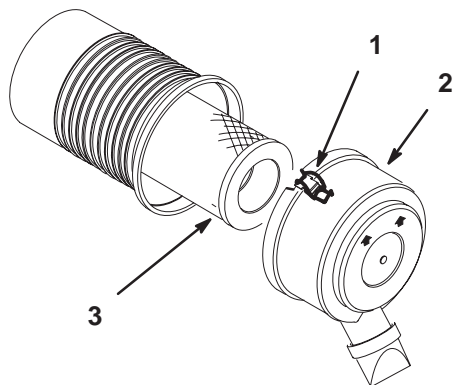

Figure 37
3. Clean around the air cleaner to prevent dirt from getting into the engine and causing damage. Loosen retaining clips and remove air cleaner cover (Fig. 37).
4. Carefully remove filter from compartment (Fig. 37).
1. Carefully slide the element into the compartment (Fig. 37).
2. Place the air cleaner cover onto compartment and latch retaining clips (Fig. 37).